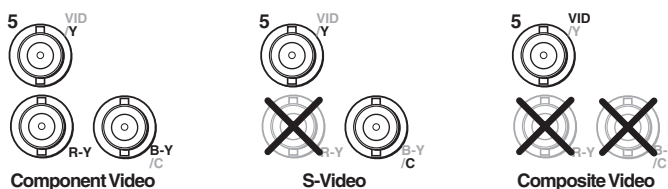

Figure 2-4 — Connections for input 5 video formats
- ③ **Input 5 video connectors** — Connect component video, S-video, or composite video to these female BNC connectors. Figure 2-4 shows how to connect the various video formats.